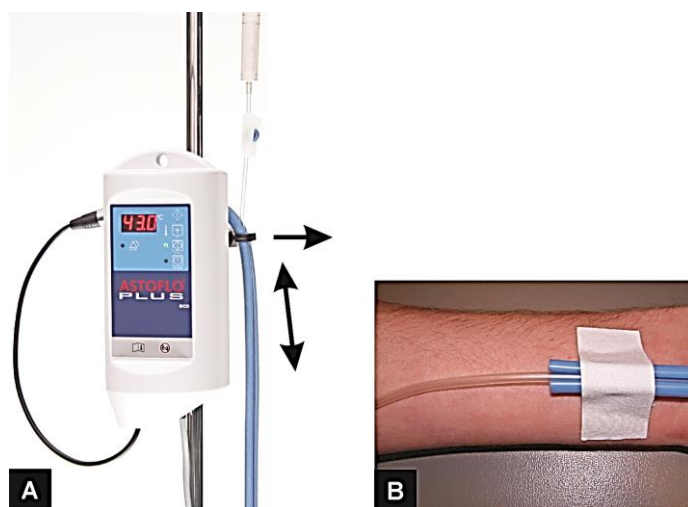

Fig. 9 Fixing the heating profile
5. Fix the heating profile/infusion line in the desired length with the clip (Fig. 9 A). The opening of the groove must be orientated to the front to allow a smooth guidance of the infusion line without kinks.
- Connect the infusion line to the patient cannula and fix the patient's end of the heating profile in position e.g. with narrow tape (Fig. 9 B). The heating profile is now free hanging between the end fixed at the patient and the control unit and the treatment can be started.